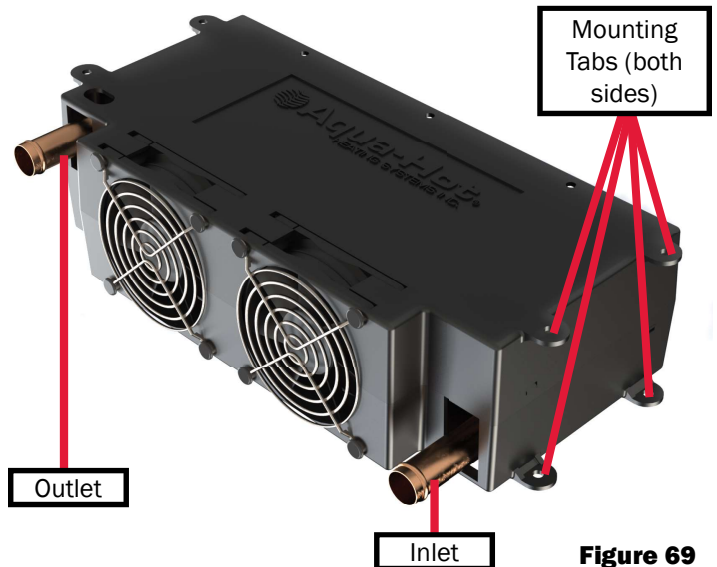

Figure 69
- The anti-freeze and water heating solution must flow in through the bottom of the heat exchanger, and out the top (reference Figure 69).
2. Mount each heat exchanger permanently into place. There are 4 tabs on both sides - see Figure 69.